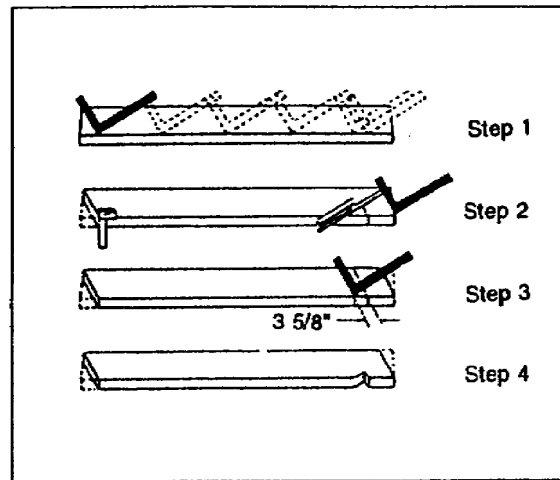

Figure 3-11. Step-off Method
(3) Step-Off Method. The rafter length of any building may be determined by “stepping it off” by successive steps with the square, as follows:
- Step off the same number of steps as there are feet in the run. For example, if a building is 20 feet 8 inches wide, the run of the rafter would be 4 inches over 10 feet. Figure 3-11, page 3-8, illustrates the four steps of the step-off method.
- This 4 inches is taken care of in the same manner as the full-foot run; that is, with the square at the last step position, make a mark on the rafters at the 4-inch mark (see Figure 3-11, step 1).
- With the square held for the same cut as before, make a mark along the tongue. This is the line length of the rafter. The seat cut and hangover are made as described above and shown in Figure 3-11, steps 2, 3, and 4.